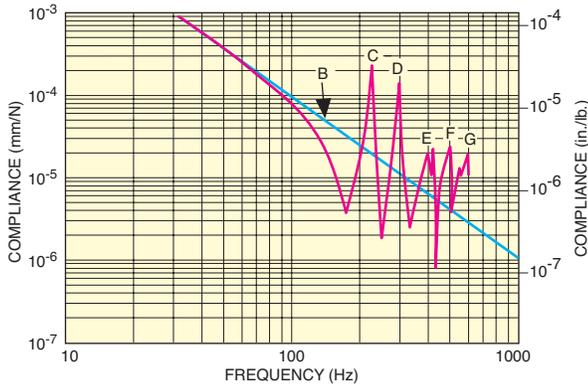
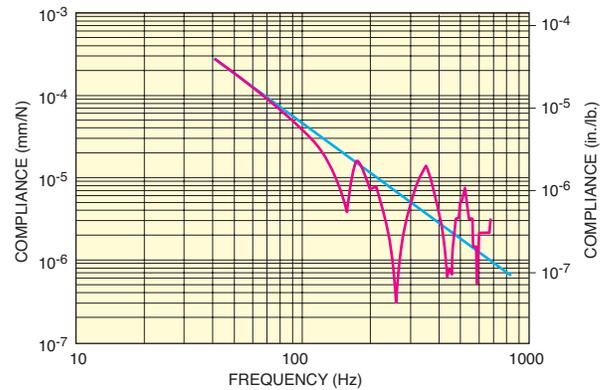

Figure 4. Compliance curve for an aluminum honeycomb core table top.
Figure 5. Compliance curve for a steel honeycomb core table top.
A table top's response to vibration depends on the frequency range. Consider the compliance curve shown in Figure 4 for an aluminum honeycomb table top. For low frequencies the compliance decreases inversely proportional to the square of the applied frequency ( $\omega = 2\pi f$ ). In other words, the structure is behaving as an "ideal rigid body." The Ideal Rigid Body line is included on all Newport compliance curves in order to measure the structural damping of a table top via the dynamic deflection coefficient, and is shown as the straight line (B) in Figure 4.
The rigid body compliance falls off rapidly as frequency increases, so the largest displacements are generally caused by low-frequency resonances. The first peak on the left has usually the highest amplitude and dominates the table's response to vibration. In Figure 4, for example, 220 Hz is the minimum resonant frequency or natural frequency ( $f_n$ ) of the table top. The highest possible minimum resonant frequency is desirable, because the amplitude of table displacements is much smaller at higher frequencies, providing greater stability.
A quick glance at a compliance curve can provide a rough estimate of the quality of damping. For example, in Figures 4 and 5, it is intuitively obvious that the damping in the table shown in Figure 5 is superior. But by how much? When comparing curves by eye, logarithmic plots can be quite deceptive. Fortunately, it
Calculation of the maximum amplification at resonance (Q) for the honeycomb core table tops is shown in Figures 4 and 5, revealing that the steel-core table in Figure 5 damps out about 3 times more effectively than the aluminum-core table in Figure 4. The Q of a typical granite block (compliance curve not shown) is also included for your comparison.